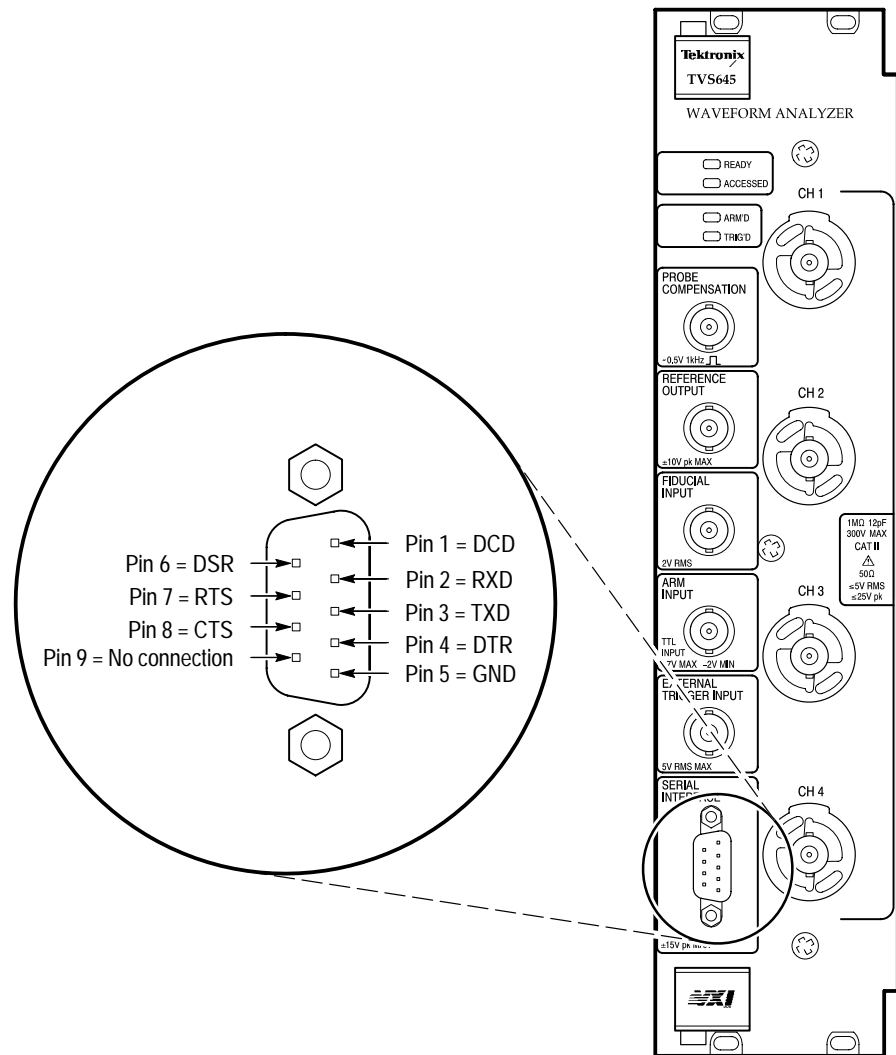

Figure 2-3: Waveform analyzer front panel
**CH 1, CH 2, CH 3, and CH 4 Channel Inputs.** These BNC input connectors drive the vertical channel amplifiers and their dedicated digitizers. The TVS641 and TVS645 have four input channels as shown in Figure 2-3. The TVS621 and TVS625 have the top two channels.
**SERIAL INTERFACE.** This 9-pin D connector provides a serial interface for controlling the waveform analyzer and reading acquired data. See Figure 2-3 on page 2-7 for the RS-232 pin assignments. You can configure the serial interface with the commands in the SYST:COMM:SER subsystem.